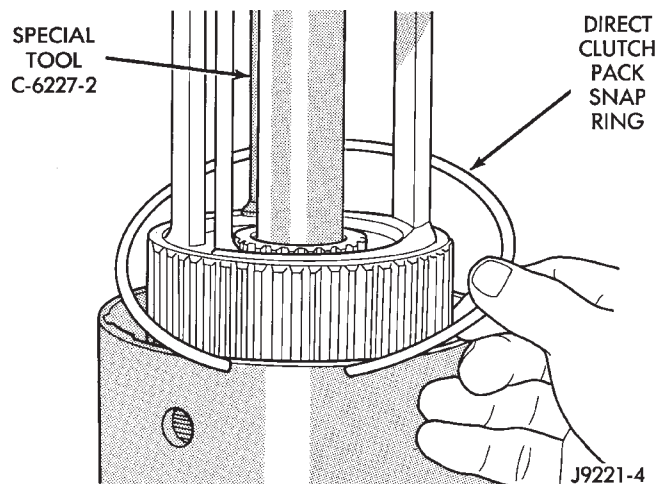

Fig. 344 Installing Direct Clutch Pack Snap Ring
(28) Install direct clutch pack snap ring (Fig. 344). **Be very sure snap ring is fully seated in clutch drum ring groove.**